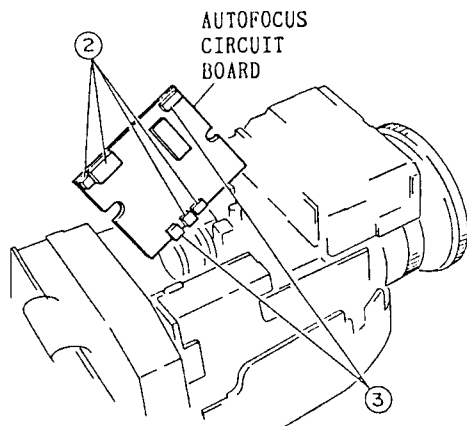

Fig. 2-18
2. Disconnect four (4) connectors (CN1A, CN2A, CN3A, CN4A). (See Fig. 2-18)
3. Unsolder two (2) connectors (CN01, CN02).